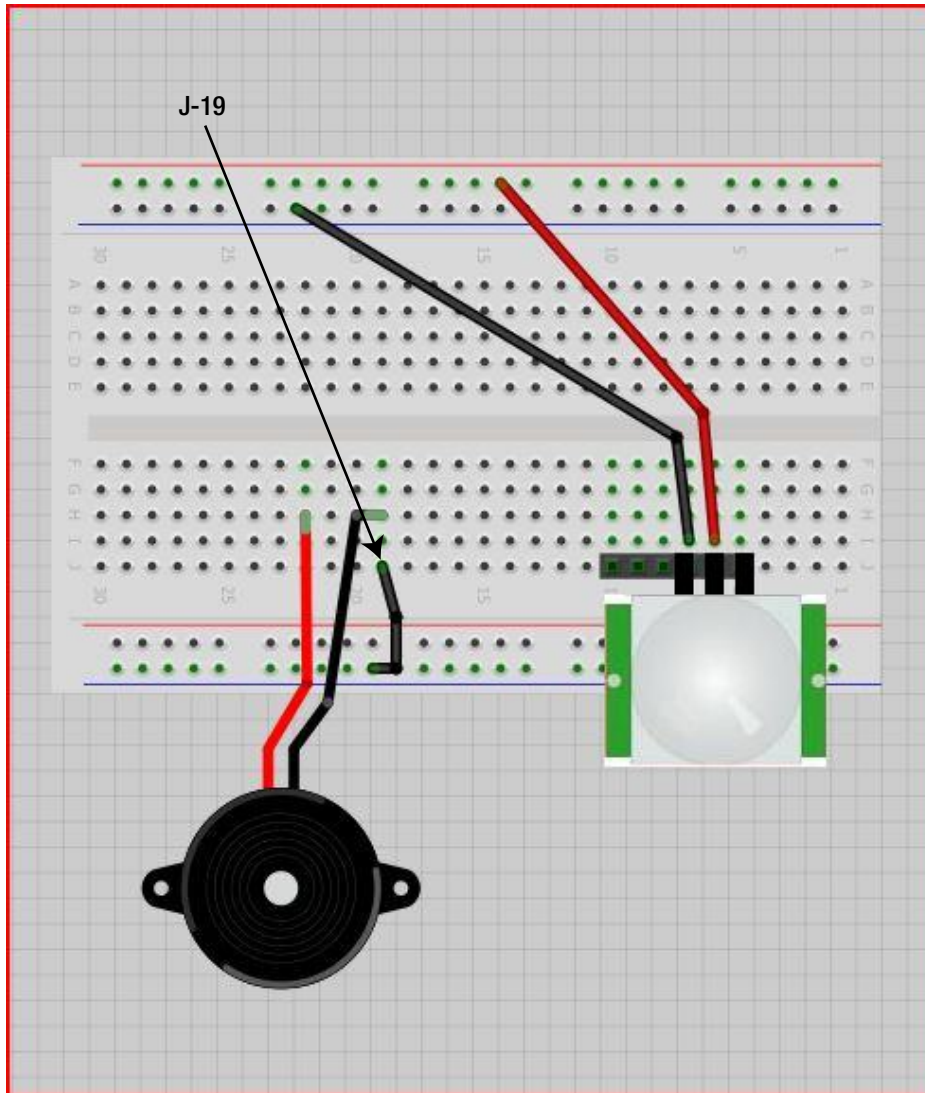

Figure 19-8. Connect ground to the buzzer
7. Now it's time to wire up the buzzer. Connect the buzzer (J-19) to the ground rail on the solderless bread board by adding a black wire from J-19 to the GND column row 19. Figure 19-8 illustrates this process.